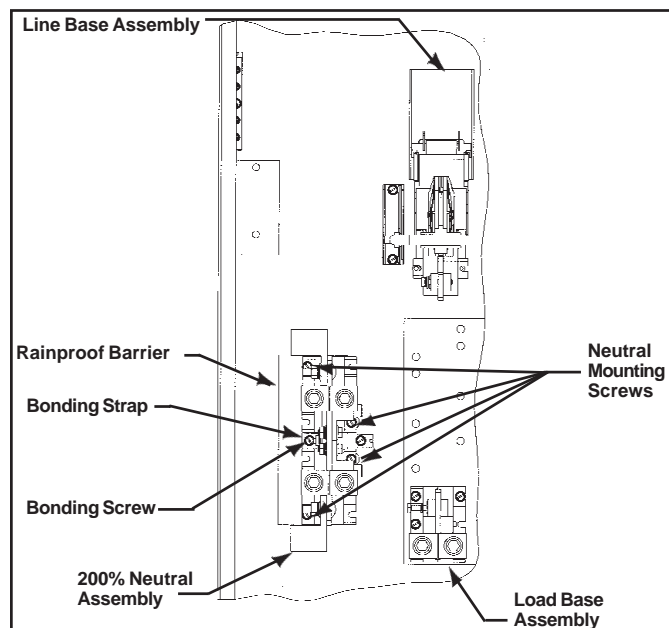

Fig. 3
- i. For Type 3R enclosures, remove rainproof barrier covering mounting area, see Fig. 3.
4. Position Neutral Assembly over existing holes as shown in Fig. 3.
6. When bonding is required place green thread rolling screw in Bonding Strap as shown in Fig. 3, and torque to 45 - 50 lb.-ins.